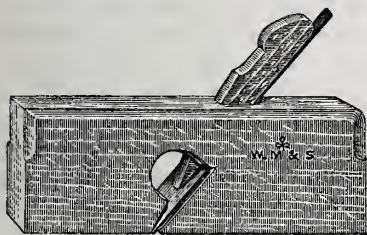

Fig. 14.—Rabbet Plane.
*Rabbet or Rebate Planes*, as shown in Fig. 14, are used for cutting away the edges of wood and forming a rectangular hollow.